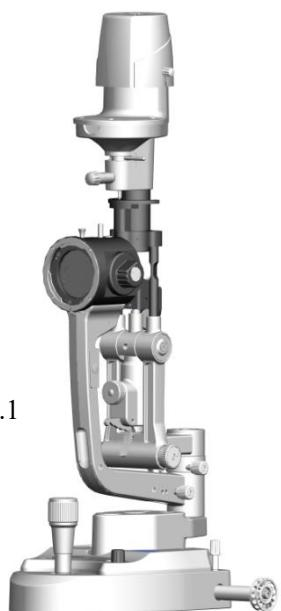

Fig.2.1.1
2. Take out the slit lamp part (Fig.2.1.1), put it on the rails of the tabletop, check whether the wheels can move steadily on the rails, place the rail cover to the rail, remove four screws attached to the rail with the screw driver, and retighten the previously removed screws.